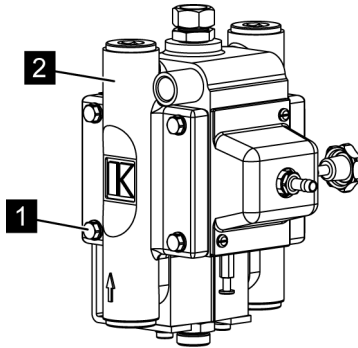

Fig. 9: Unscrew the cover
4. ➤ Unfasten all 4 screw (Fig. 9/1) and remove the cover (Fig. 9/2).